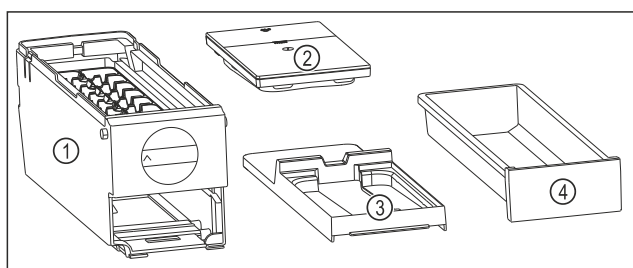

Fig. 80 Components of the EasyTwist-Ice
- ▷ EasyTwist-Ice is dismantled into four parts. (see Fig. 80)
- ▶ Only dismantle the EasyTwist-Ice into the components shown. (see Fig. 80)
- ▶ Clean the EasyTwist-Ice body Fig. 80 (1) as a whole.